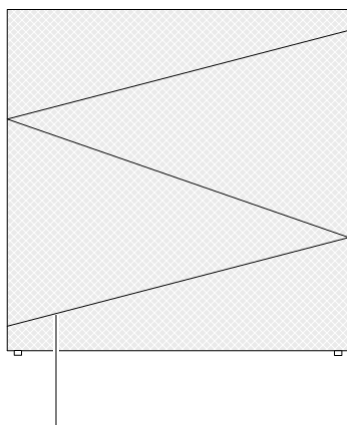

Figure 11.6 Fastener of air filter pad holder (top view)
2. Press the fastener of the air filter pad holder together to fasten it in the holder again, refer to Figure 11.6.